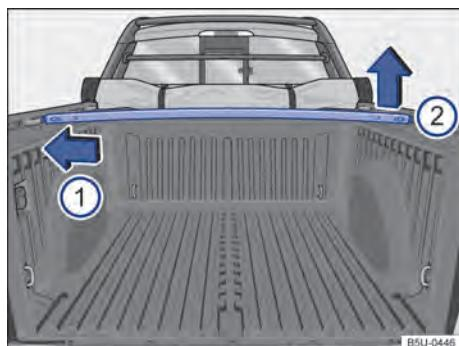

Fig. 52 Bed crossmembers - remove and install.
- To remove, press the cross member on the left side in the direction indicated by the arrow → **Fig. 52 ①** and remove the cross member from its seat from the right **②**.